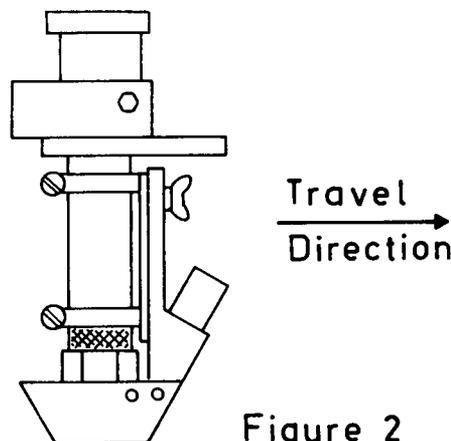

Figure 2
7. Position the moving member to the desired height of flux coverage and tighten the wing screw into the top tapped hole. See Figure 2.
1. Be sure nut (H) is tight. Drive out roll pin (G).
2. While holding the head, loosen nut (H) and lower the head (F) from the head support (E).
3. Loosen the nut (K) on the draw bolt (L); now remove the stationary mount (E), (not shown in Fig. 2).
4. Slide the clamp ring (A) over the end of the mounting bracket (M).
5. Drive the 1/4" roll pin (B) into clamp ring (A) when the hole in the ring lines up with the groove in the mounting bracket (M).
6. Tighten the clamp ring (A) with the open slot in the up position, using the 1/2" clamping bolt (C).
7. Slide the vertical head adjustment unit (E') into the mounting bracket (M). Tighten the draw bolt nut (K).
8. Install one adjustable clamp (D) on each side of the clamp ring (A).
10. Raise the welding head (or horizontal adjuster) back into position on the up and down lift shaft (N). Drive the 5/16" roll pin (G) back into its original position.
11. Tighten draw bolt nut (H).